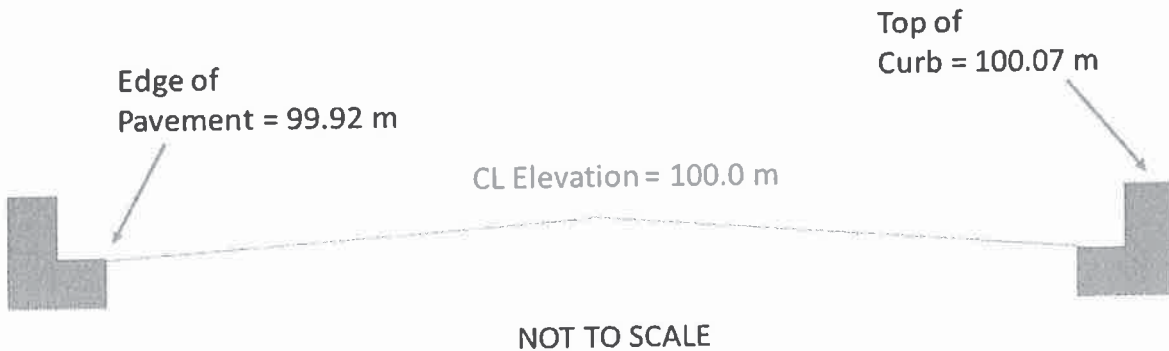

Figure 6. Roadway cross-section.
6. A road cross-section is 8 m wide (from edge to edge of pavement), with a 2% crossfall slope from the centreline and is bounded by curbs (Figure 6). The Manning's 'n' for asphalt is 0.013 and the longitudinal slope of the roadway is 0.015.